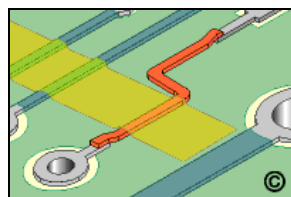

Figure 5: Form the shape of the Circuit Track and hold in place with Tape.
13. Form the final shape of the Circuit Track and hold in place with Tape. Lap solder the Circuit Track to the remaining conductor on the circuit board. Make sure the Circuit Track is properly aligned. Remove the Tape used to hold the Circuit Track and clean the area. (See Figure 5).